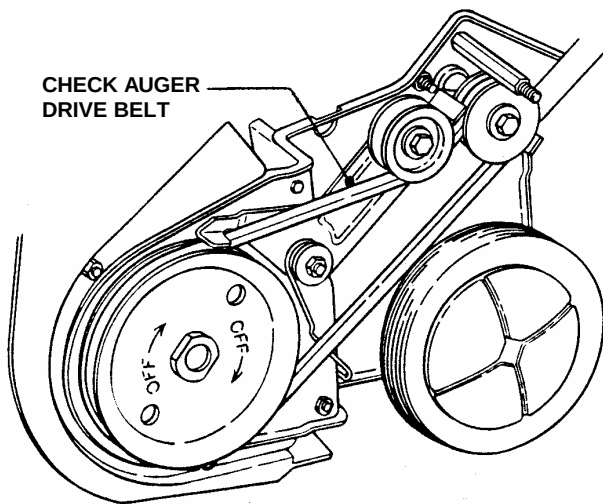

FIGURE 4.1
1. Visually check engine drive belt for cracking, fraying, severed or exposed belt strands. Replace worn belt before operating snow thrower. See Figure 4.1